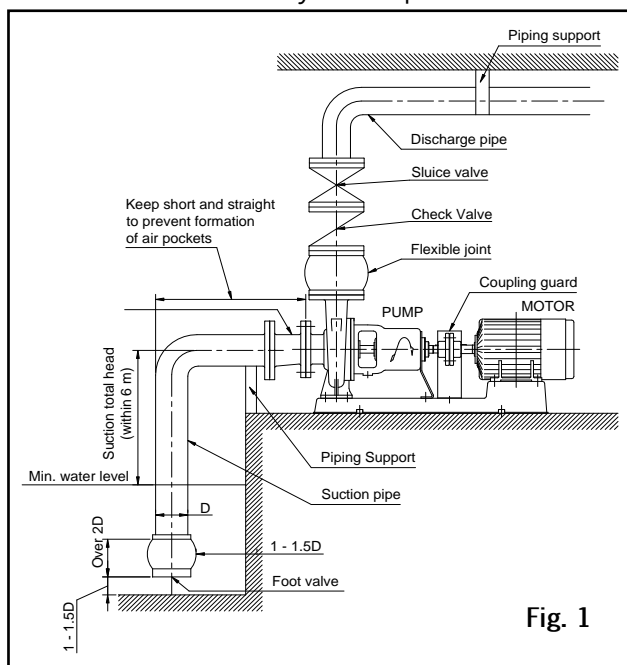

Fig. 1
5. Suction pipe sizes and suction reducer sizes should be as indicated in **Table 1**. Install the suction reducer as shown in **Fig. 1** to prevent the formation of air pockets. The suction reducer is available as a separate special accessory.
- (6) For the influx system, we recommend that you install a cutoff valve on the suction piping to facilitate disassembly and inspection.